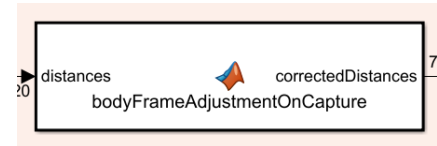

Figure 3. Point cloud map generated in a room.
2. As your room size may vary, change the maximumDistance (m) parameter within the pointCloud subsystem accordingly, up to a maximum of 4m (corresponding to an 8 x 8 m room). Figure 3 shows the typical output expected when running this example.